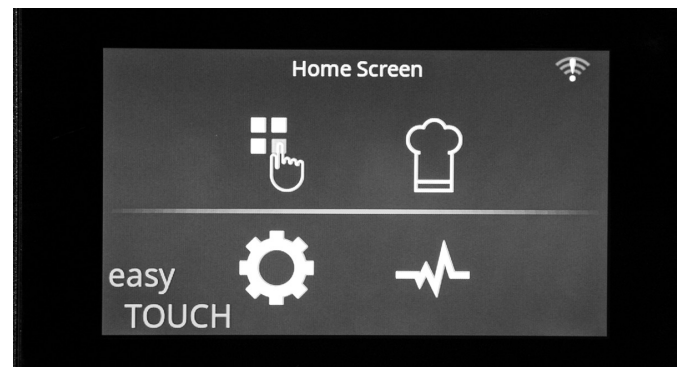

Figure 24
1. To shut down your oven, press the Back Button to return to the Home screen. The conveyor should stop moving; however, the cooling fan will continue to run if the oven is hot. (Figure 24)